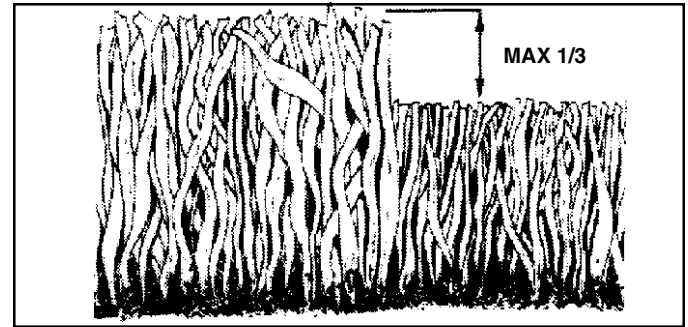

FIG. 4
- For best results, adjust the mower cutting height so that the mower cuts off only the top one-third of the grass blades (See Fig. 4). For extremely heavy mulching, reduce your width of cut and mow slowly.